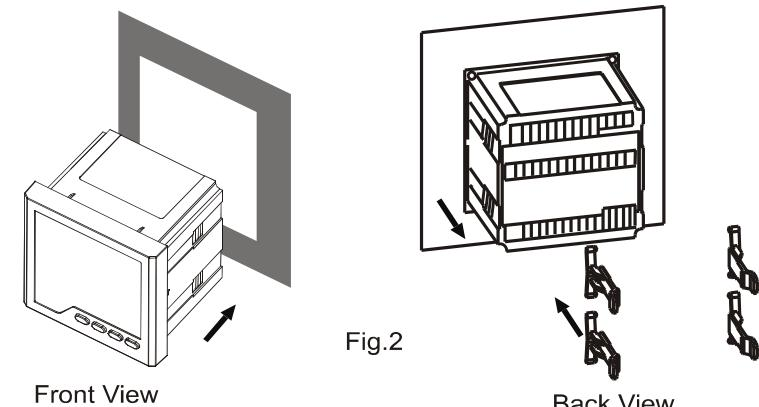

Fig.2
4.2 Installation sketch(see fig.2)